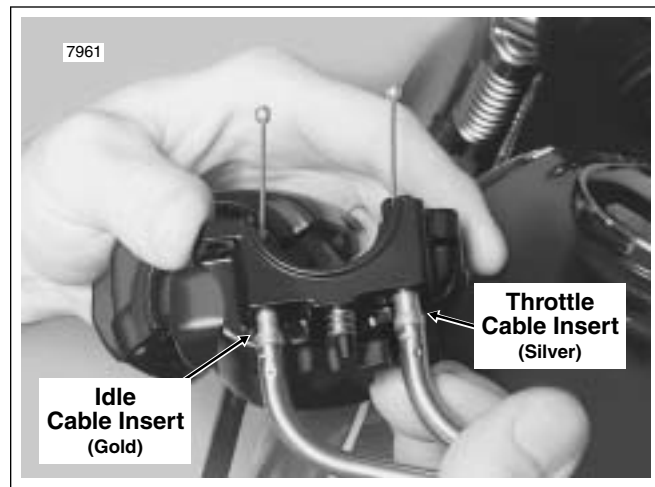

Figure 2-109. Install Throttle/Idle Cables in Lower Switch Housing
2. Push the throttle and idle cables into the lower switch housing until they snap in place. See Figure 2-109. Proceed as follows: